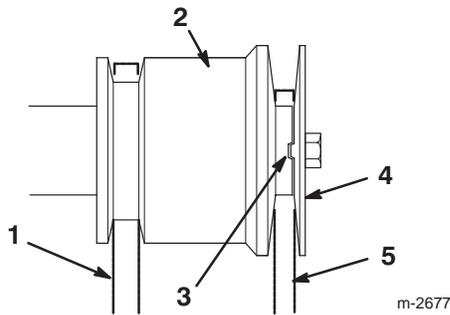

Figure 32
Note: Do not to pinch the traction drive belt (Fig. 32).
15. Install the engine pulley sheave, ensuring that the indexing rib in the engine pulley sheave aligns with the indexing notch in the engine pulley (Fig. 32).
16. Install the washer, lock washer, and crankshaft screw that secures the engine pulley sheave (Fig. 32).
- Note:** Do not pinch the auger/impeller drive belt (Fig. 32).
Note: Ensure that the indexing rib in the engine pulley sheave aligns with the indexing notch in the center engine pulley. Do not pinch the belt (Fig. 32).